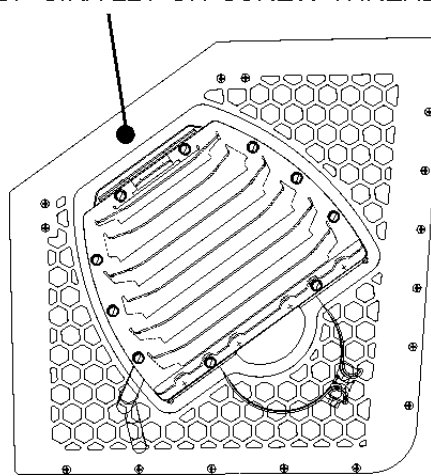

FIGURE 9: DIFFUSER POSITION ADJUSTMENT 04015\_3
5. Reinstall the exhaust aftertreatment system roof ventilation grill and deflector. Put a small quantity of Sika 221 on screws (fig.9).